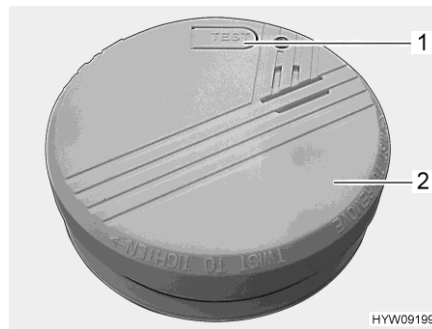

Fig. 50 Smoke alarm
- Press the test button (Fig. 50,1) on the smoke alarm (Fig. 50,2) until the alarm tone sounds. The alarm tone falls silent after the test button is released.